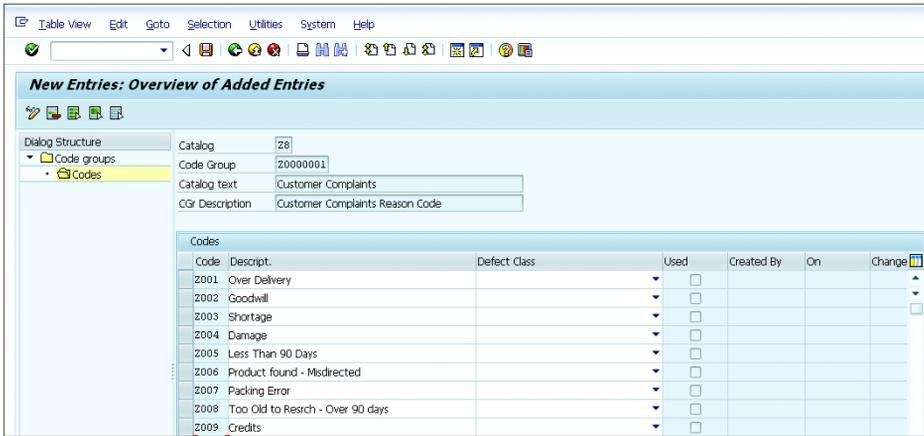

Figure 4.102 Maintaining Codes for the Code Groups
- A list of the codes under the CODE GROUP Z0000001 when the CGR DESCRIPTION CUSTOMER COMPLAINTS REASON CODE is created, as shown in Figure 4.102.